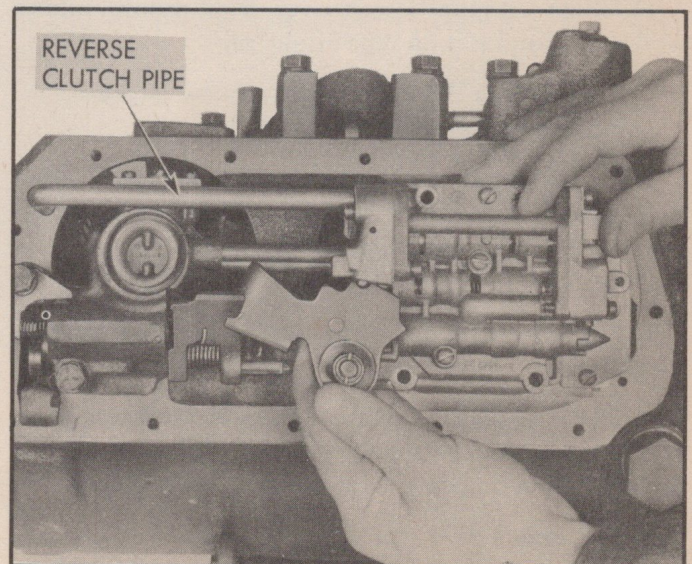

Fig. 98—Installing Control Valve Assembly
11. Install control valve assembly over three oil delivery pipes and reverse clutch pipe and start bolts (Fig. 98). Press valve body and bracket assembly against case and torque four valve body to case bolts to 6-8 lb. ft.
3. With detent control lever in Lo position install control valve assembly over three oil delivery pipes and reverse clutch pipe and start bolts (Fig. 98). Torque valve body bolts to 6-8 lb. ft.